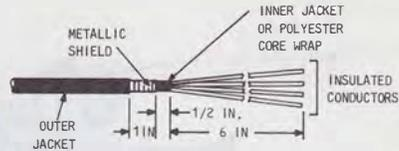

Fig. 13—Prepared Service Wire—B Cable Closure
**B Cable Closure (MD)**
5.02 Prepare the service wire as illustrated in Fig. 13.
**D Cable Closure (MD)**